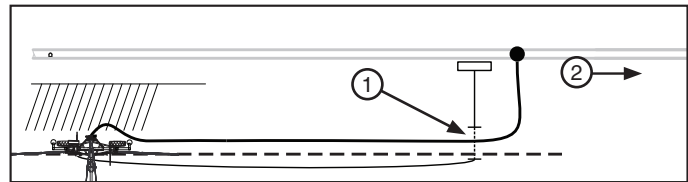

Figure 51-2 1. Buried Cable
- (a) As the cart moves, the swivel inlet begins to pivot. See figure 51-2.